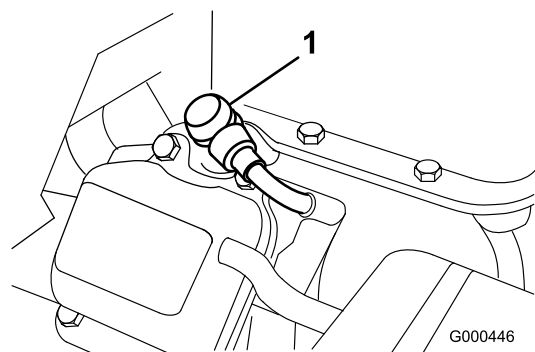

Figure 23
1. Pull the molded wire off of the spark plug (Figure 23).